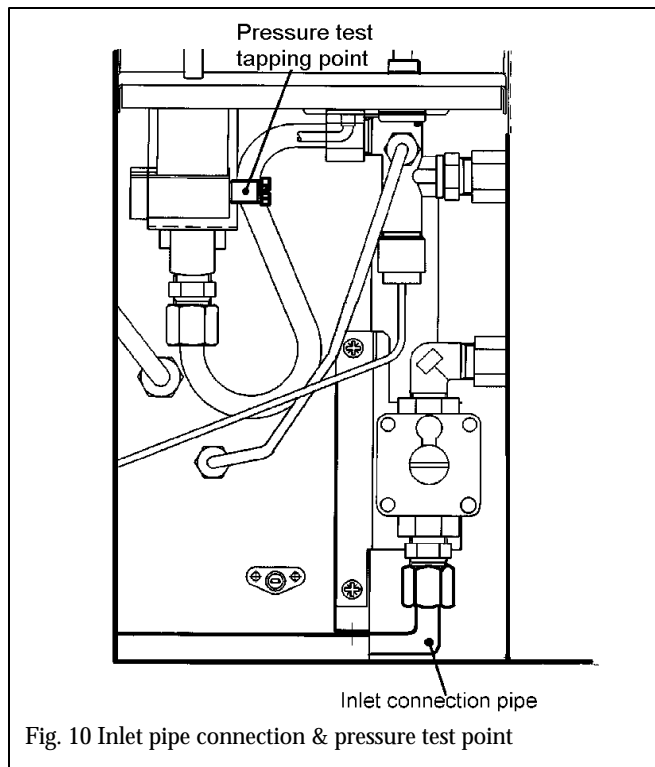

Fig. 10 Inlet pipe connection & pressure test point
regulator (see figure 10).
- 11.3 The burner manifold pressure is controlled by a built-in non-adjustable regulator. The correct pressure range is shown in the table in section 2 of this manual. The manifold pressure should be checked at the pressure test point which is located on the thermostat unit (see figure 10). The pressure check should be made with the appliance burning, the gas control set at "On" and the thermostat control set at "Full". (Temporarily refit the control knobs for checking.)